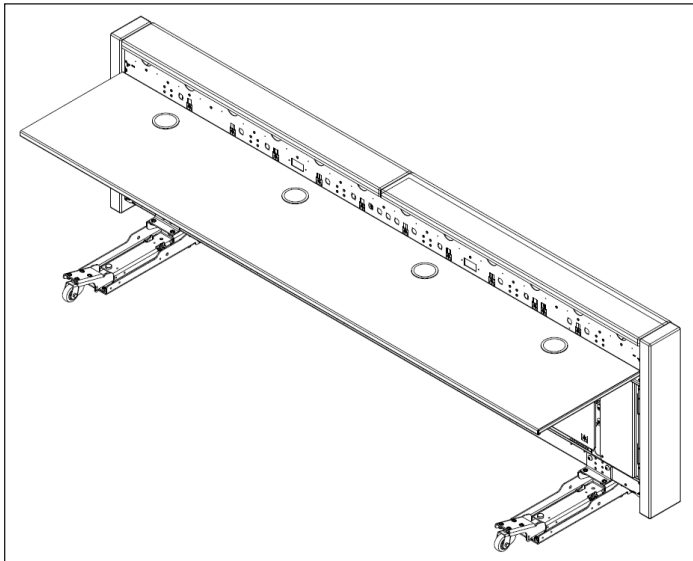

Figure 25: Tabletop Locked in Position
9. Lift up the tabletop until the latches underneath spring into position. **Figure 25** shows tabletop locked in position.